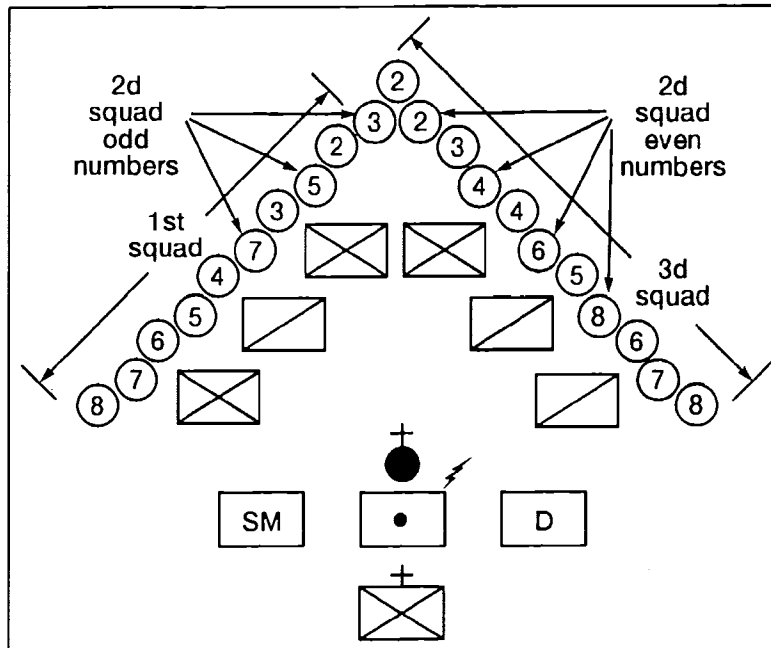

Figure 191-379-5400-13. Platoon Wedge with One Squad in Close Support
12. Form the platoon in a platoon wedge with one squad in close support (figure 191-379-5400-13).